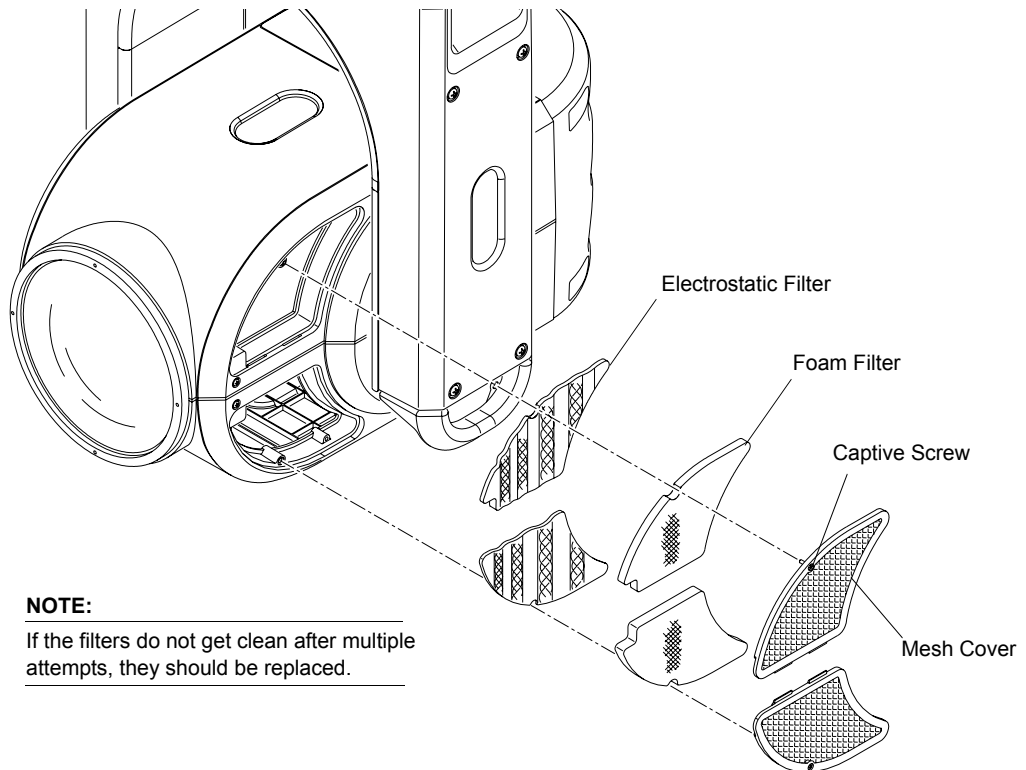

Figure 4-4: Removing Head Filters
- Step 2. At each mesh cover, loosen one captive screw (Figure 4-4).